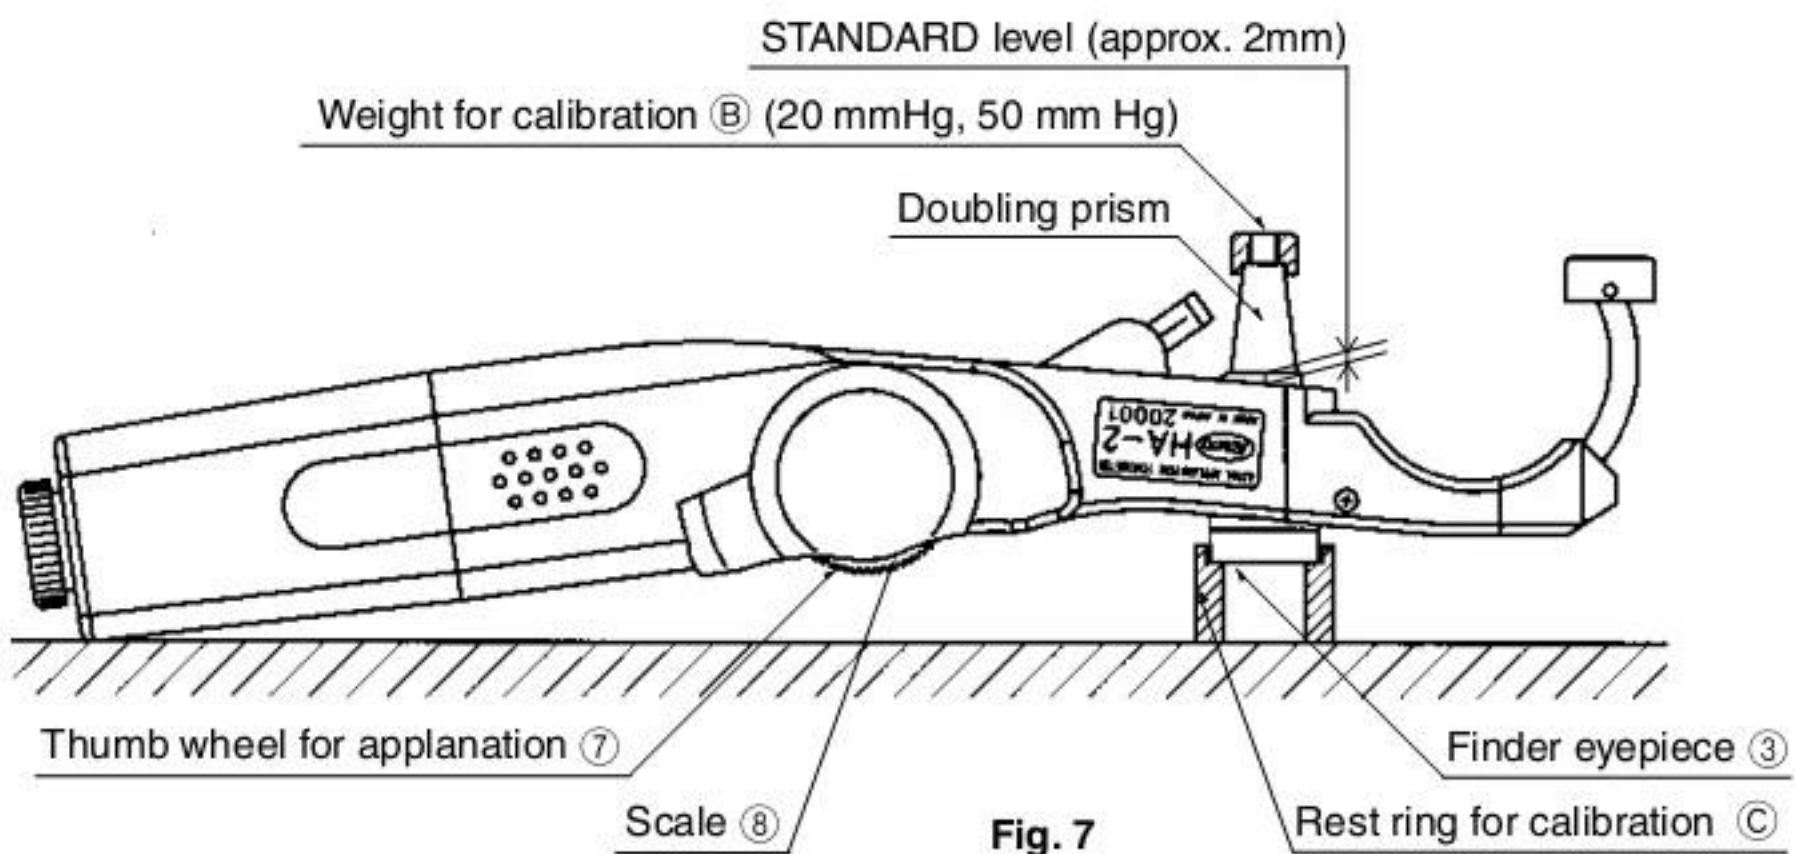

Fig. 7
- 1. Lay the KOWA APPLANATION TONOMETER HA-2 on a desk as shown in Fig. 7, fitting the eyepiece to the calibration rest ring ③.